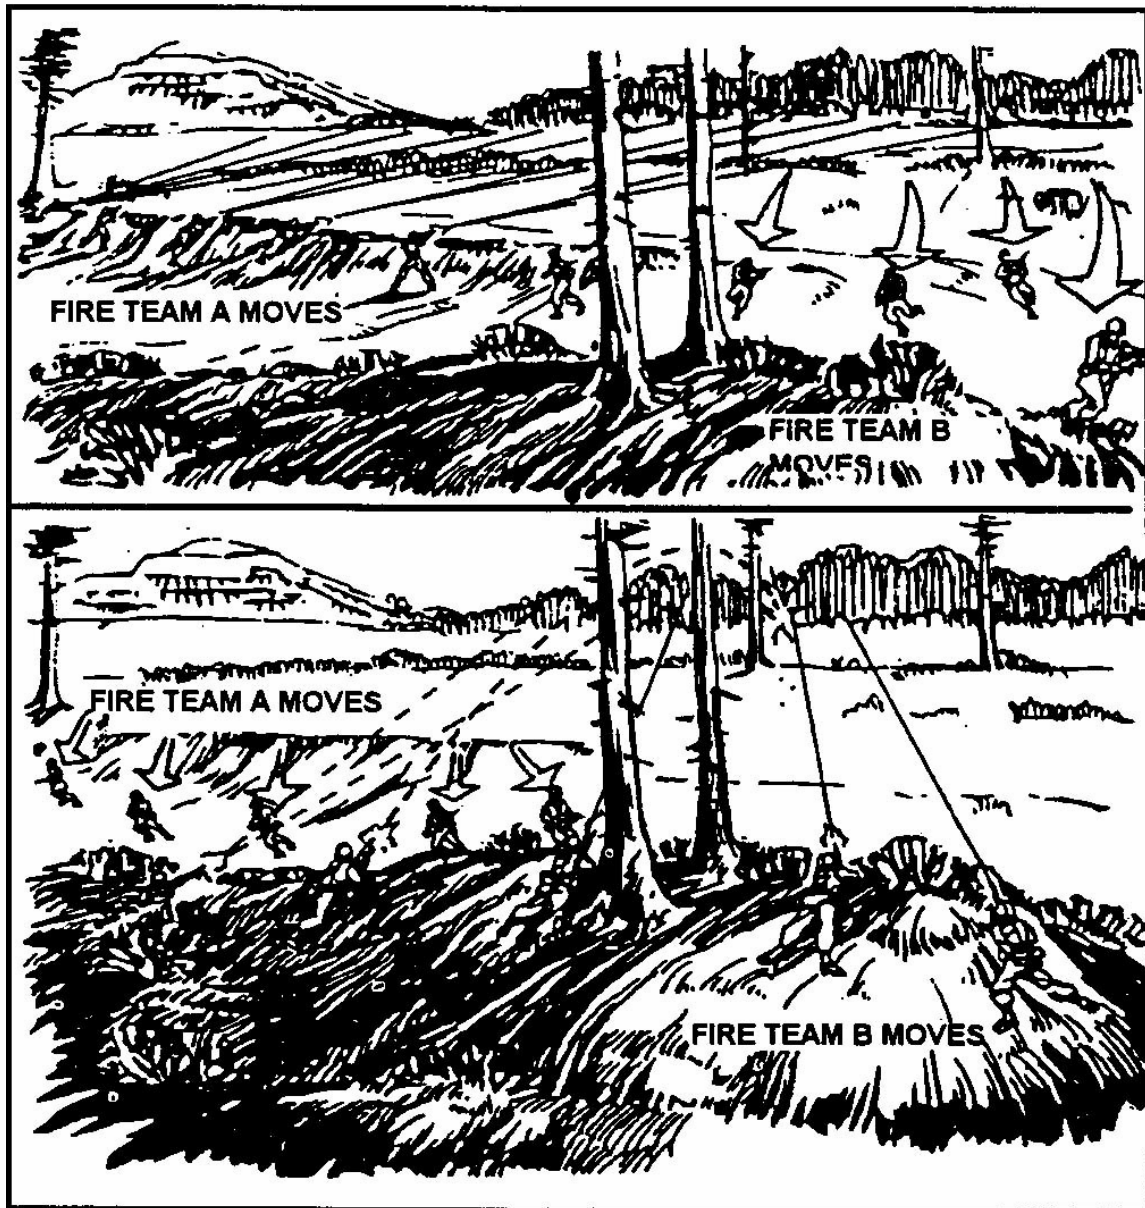

Figure 071-326-5832-3
- c. Disengagement by squad. If enemy fire is such that fire and maneuver by fire teams is unnecessary, or if squads have moved back to a point where it is no longer necessary, the platoon moves back by squads. The platoon leader has each squad, in turn, move back covered by the fire of the others (Figure 071-326-5832-4).